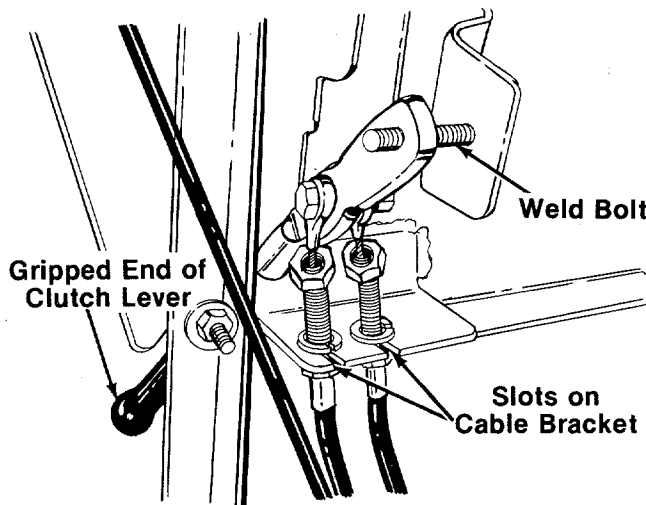

FIGURE 12.
4. Slip the wire on the cables through the slots in the cable brackets as shown in figure 12. Push the ends of the cable up through the holes in the bracket. Rethread hex nuts and lock washers on the end of the cables. Do tighten at this time.
5. Place end of drive clutch lever over weld bolt on handle panel. See figure 12.